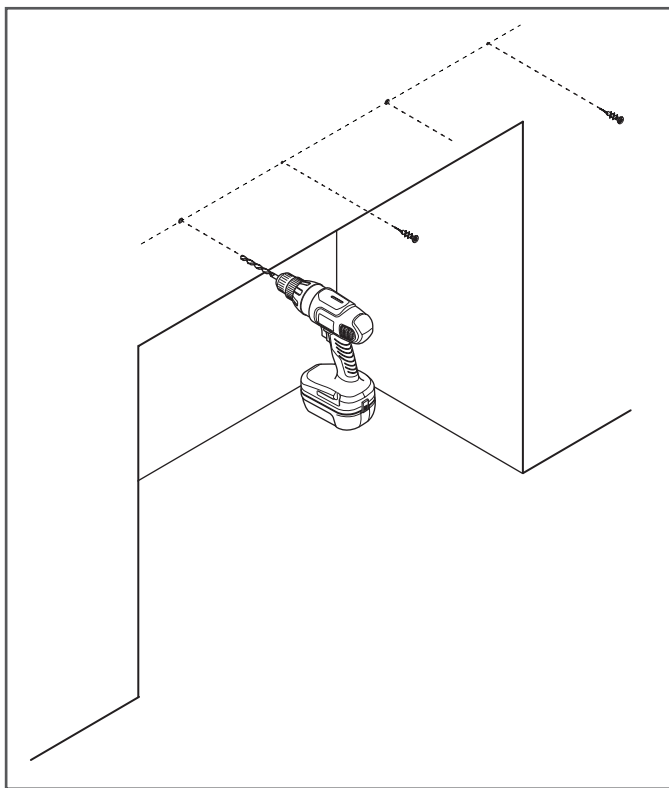

Figure 5
8. Install drywall anchors only where mantel installation does not intersect with a wall stud (Figure 5).
9. Drill an 1/8" hole where installation intersects with a wall stud (Figure 5).